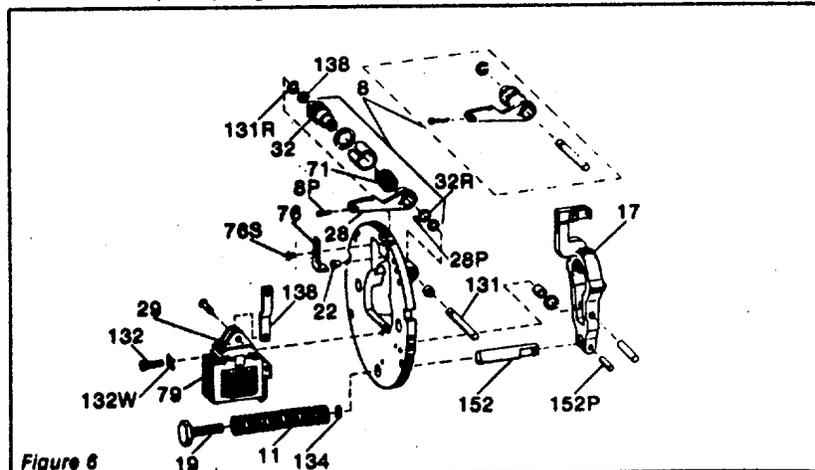

Figure 6
D. Self-adjust maintenance (See figure 6)